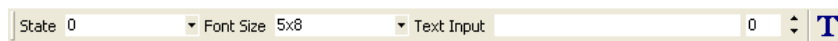

Figure 2-23 Fast toolbar
- **Fast toolbar:** It provides the functions needed for changing the state of an object, typing text, and setting a font, as shown in Figure 2-23.